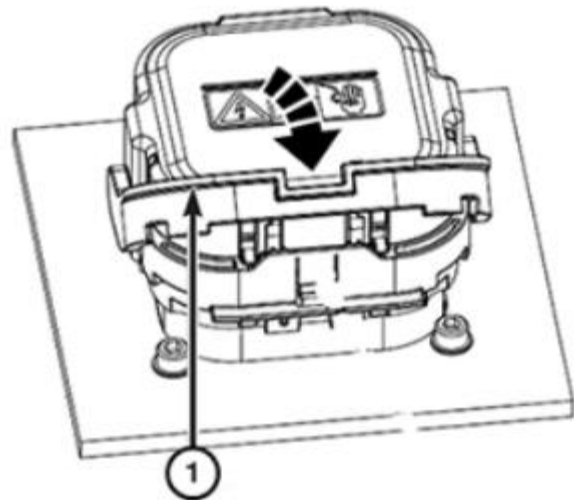

Figure 25 – MSD Lever Locking
21. Rotate the lever (1) downward until it is fully engaged and locked by the lever release latch (2). An audible “click” will be heard as the lever latches into position. Gently pull the high-voltage MSD upward to ensure that it is fully seated in the receptacle and locked. If the MSD is able to be removed, repeat steps 16 – 21 (Figure 25).